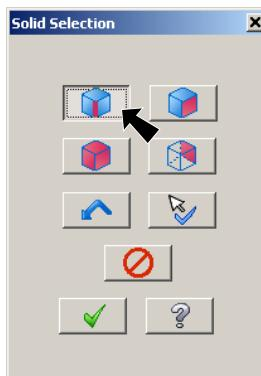

Fig. 31
Step 3. In the Solid Selection dialog box, select **Edge**  and unselect others, Fig. 31.